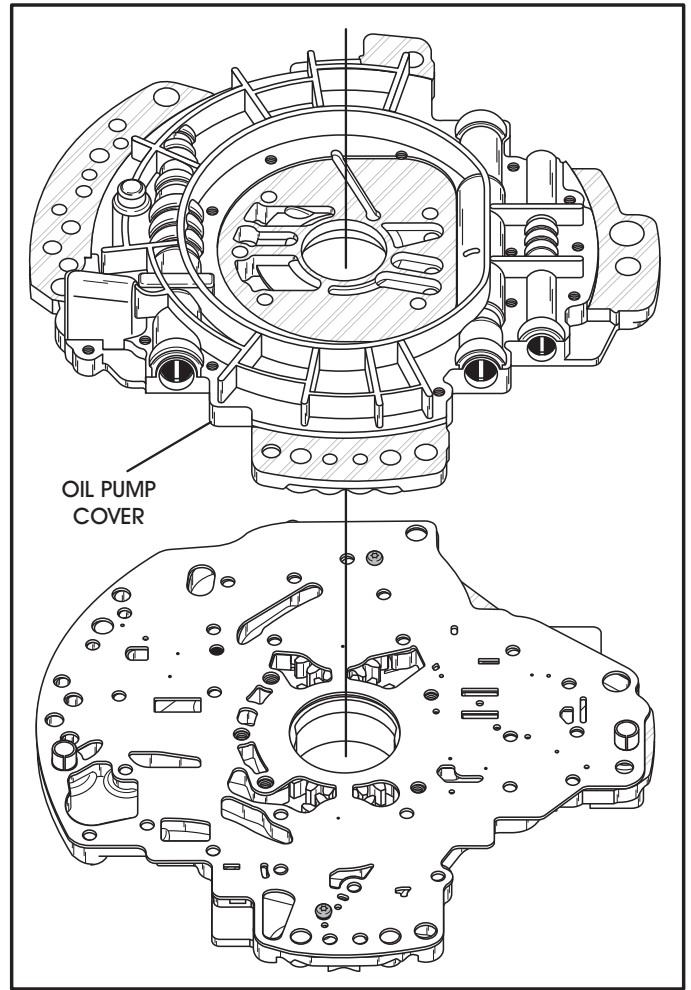

Figure 93
14. Install the pre-assembled oil pump cover onto the locating dowels as shown in Figure 93.